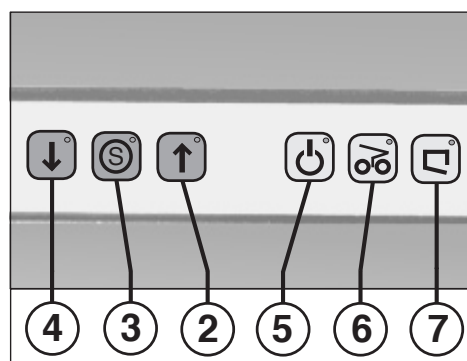

Fig. 2
- The cutting system becomes jammed. The pilot lamp (6) (fig. 2) lights up.
When the collecting bag is full, the machine turns off automatically. The pilot lamp (7) (fig. 2) lights up. Empty the collecting bag as follows:
1. Depress the reverse pushbutton (4) (fig. 2). The material is released.
2. Lift up the hopper. The pilot lamp „door open“ or „hopper open“ (7) (fig. 2) will light.
The machine is equipped with a thermally protected motor. Should this motor be overloaded, it will switch off automatically. In such case the pilot lamp „ready“ (5) (fig. 2) flashes. Additional the pilot lamp of the control display (7) (fig. 2) lights up.